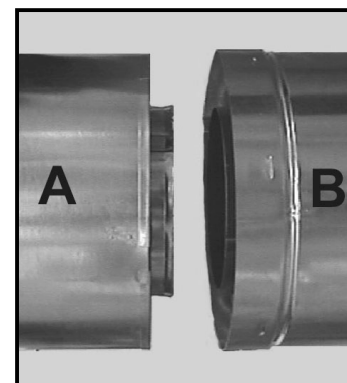

Figure 29
- Insert the outer flue of Section "A" into the outer flue of Section "B". See Figure 29.